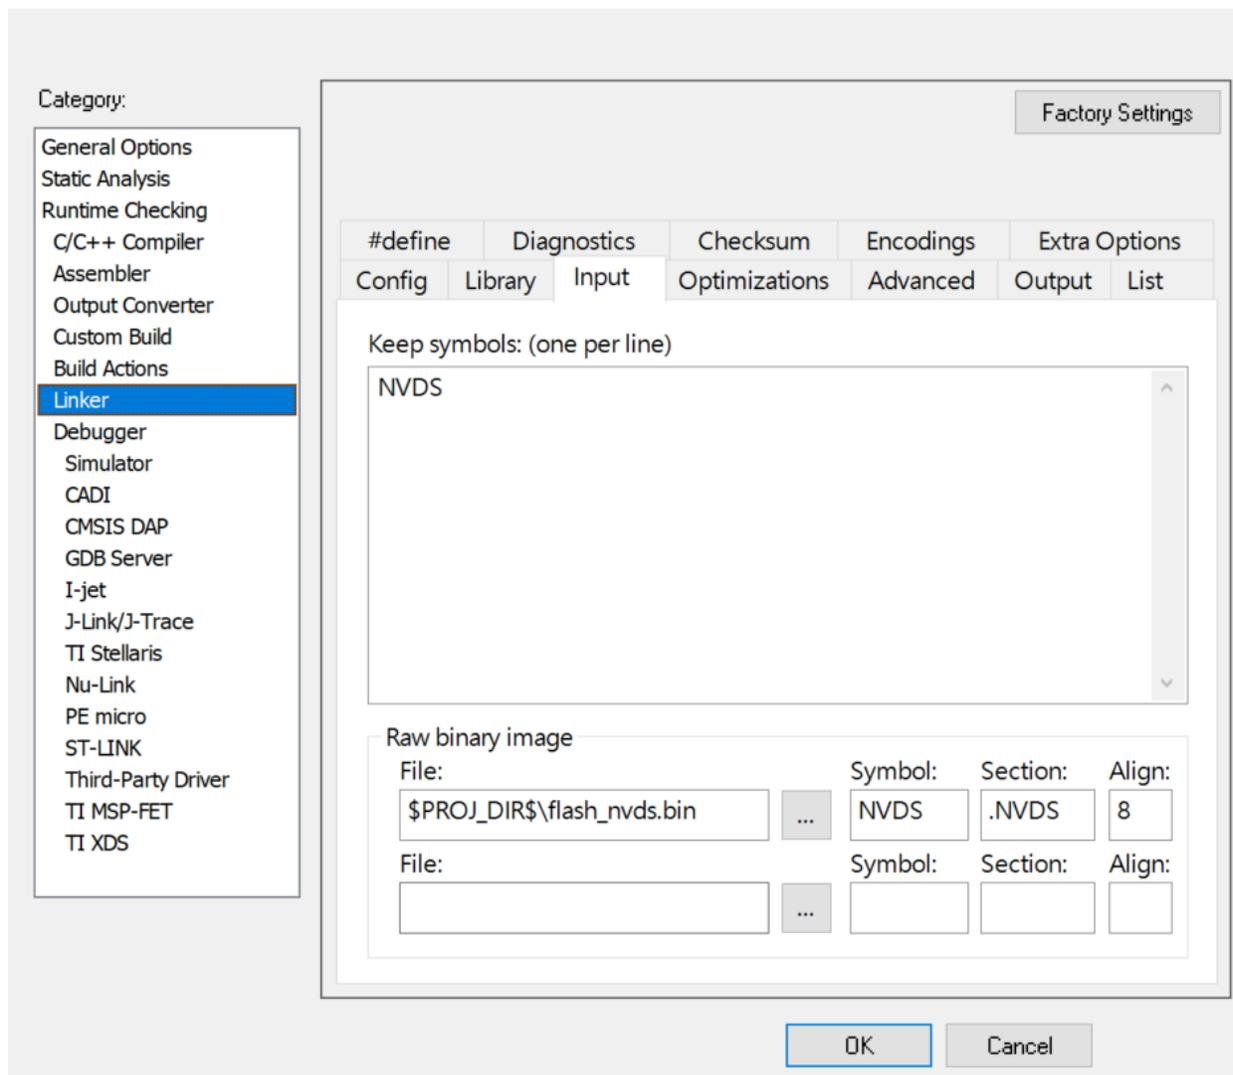

Figure 6 - Add flash\_nvds.bin
- Figure 6 - Add flash\_nvds.bin
To program NVDS, set flash\_nvds.bin as an input and program the whole image. See Figure 6.